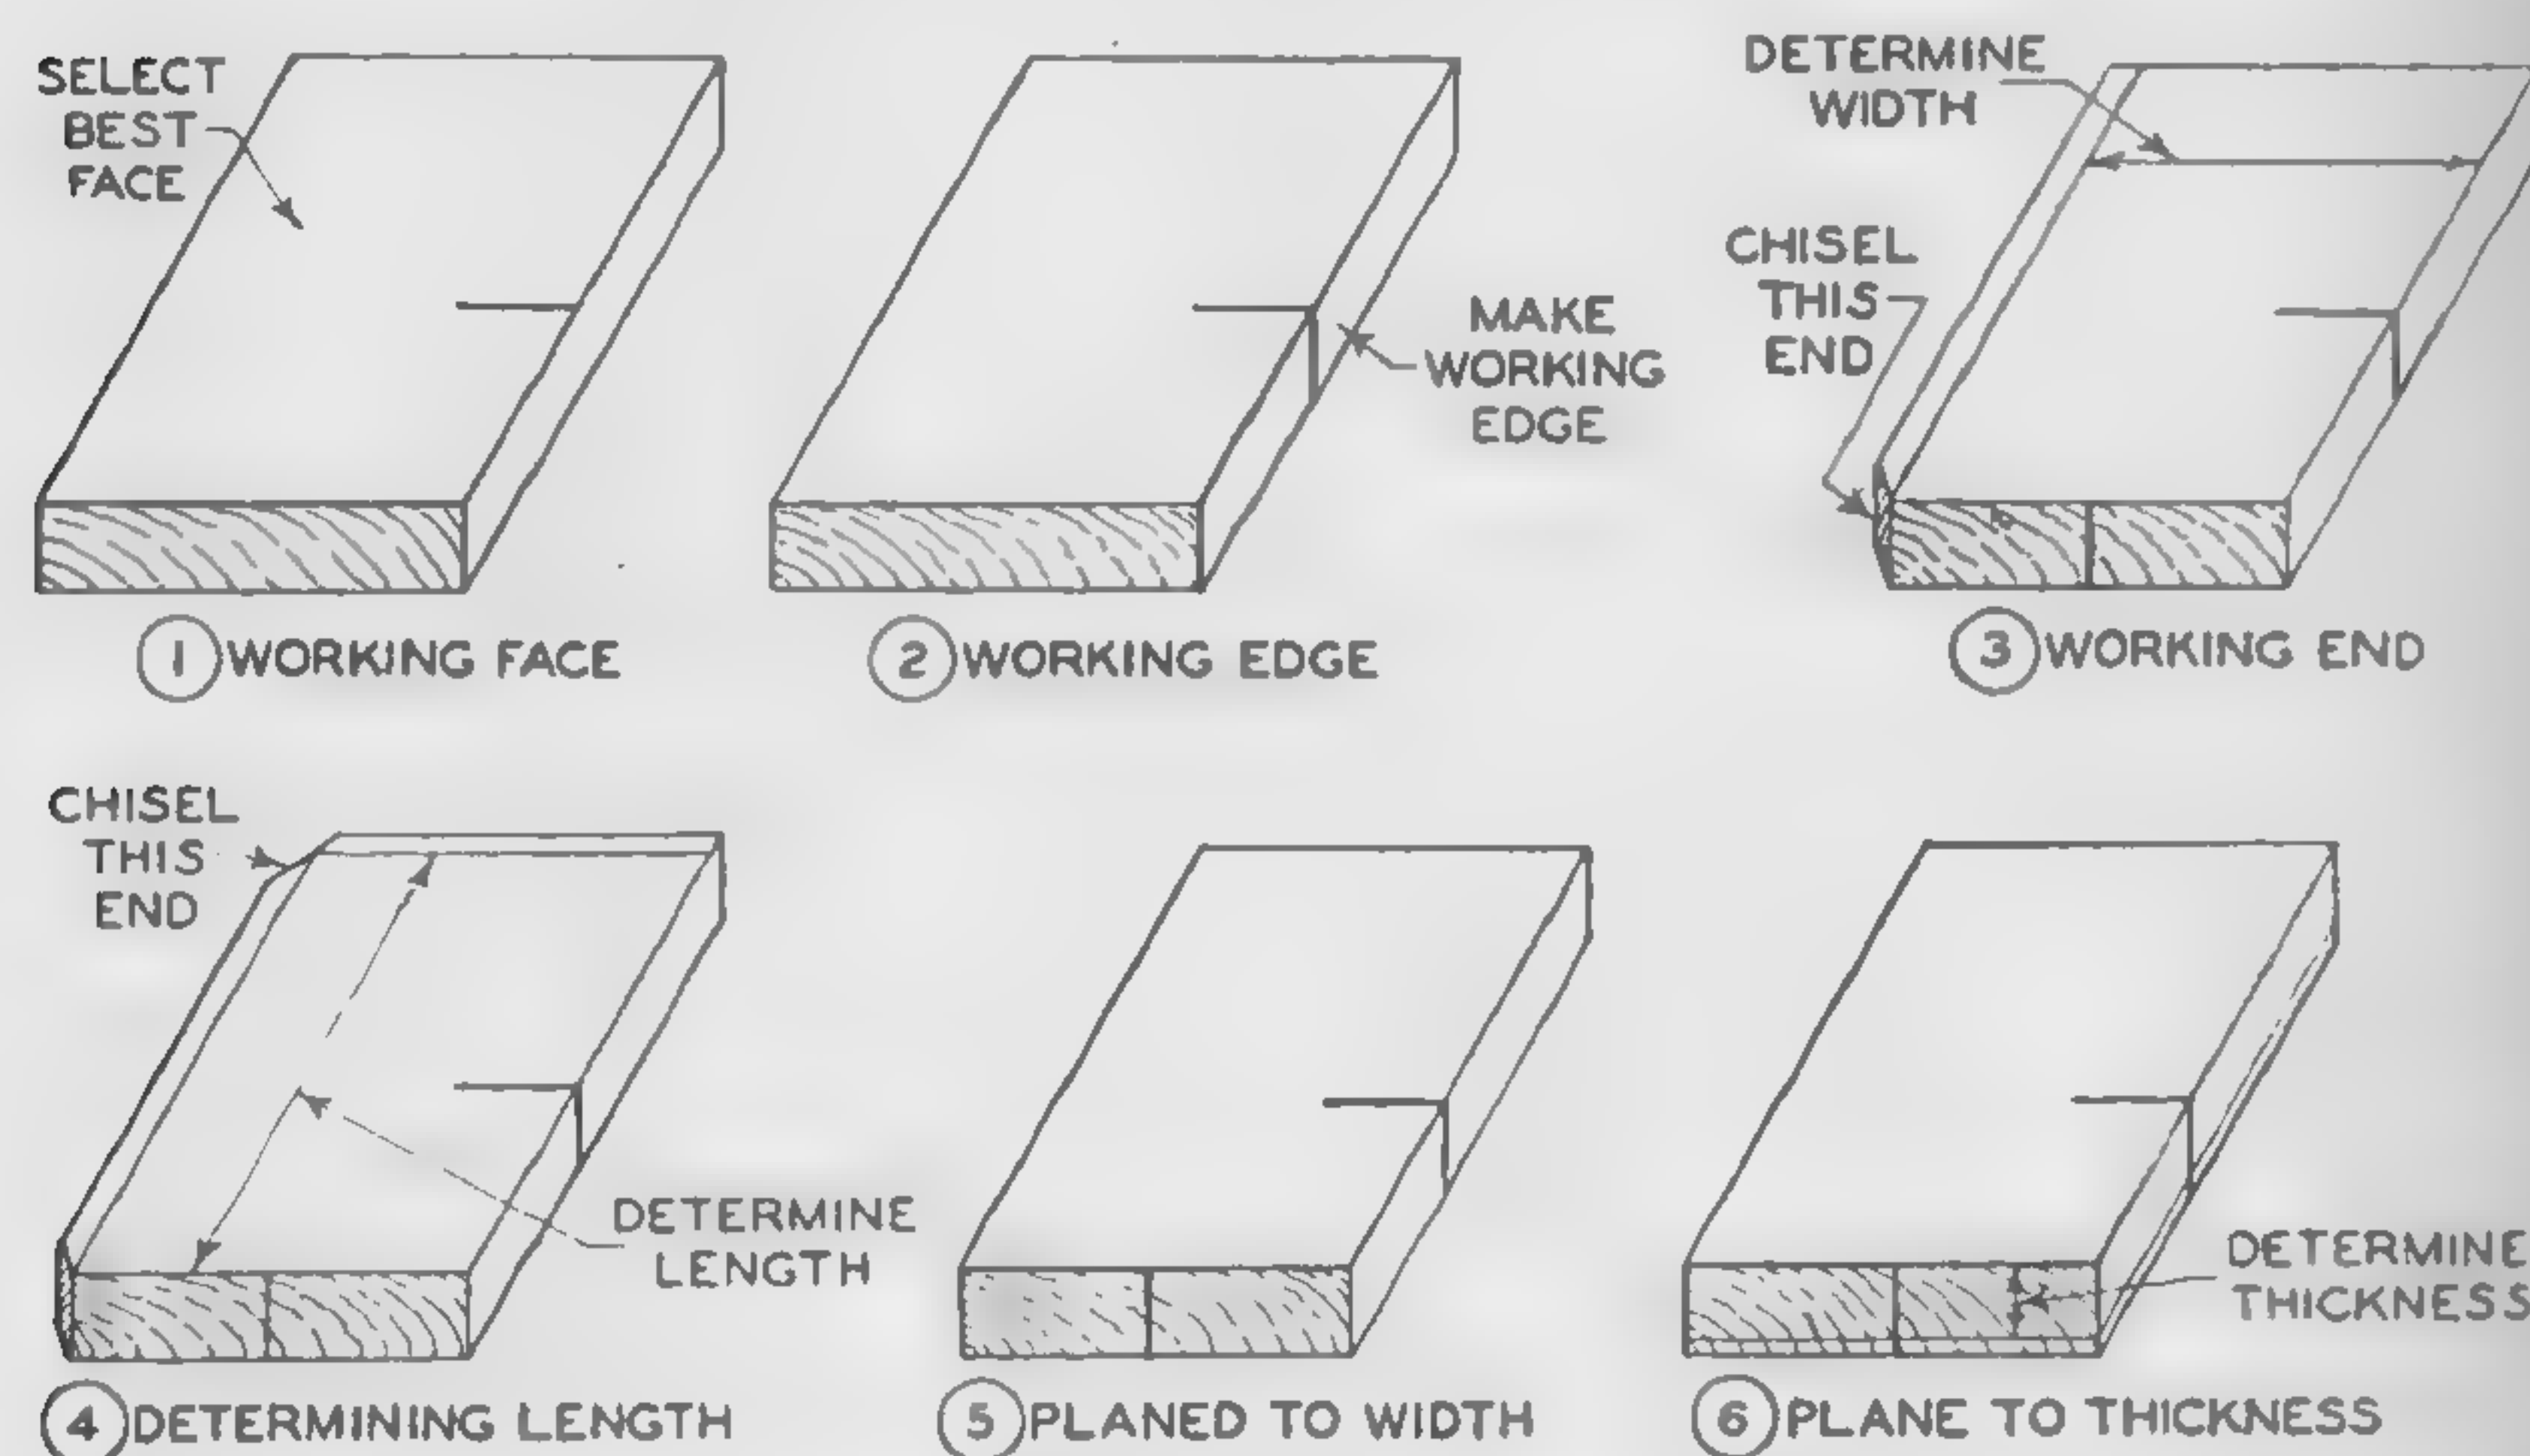

Fig. 103. Method of Truing a Small Board to Dimensions
Planing a Small Board to Dimensions. The following paragraphs, together with Fig. 103, explain how to true a board to specified dimensions.
1. *Make a Working Face.* Select the best side and plane it flat and true. Test with the try square, plane out any warps or twists, and mark it with a pencil line, as shown in Fig. 103, to indicate it as the working face.